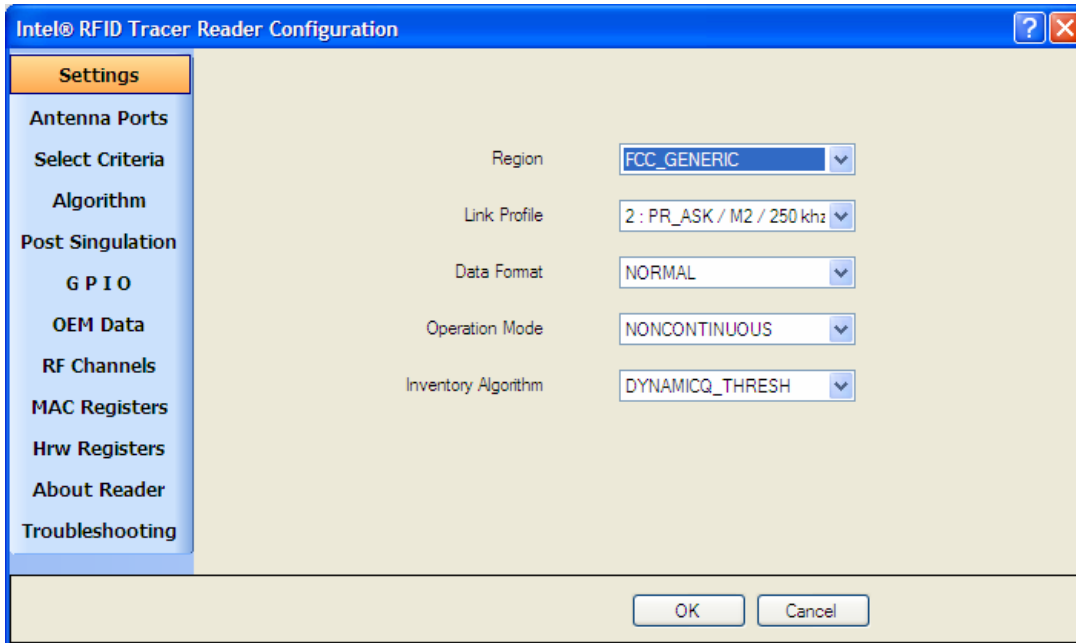

Figure 7 Reader Configuration Panel
Step 2: Select “Antenna Ports” listed on the left-hand side selection bar, as shown in Figure 7.